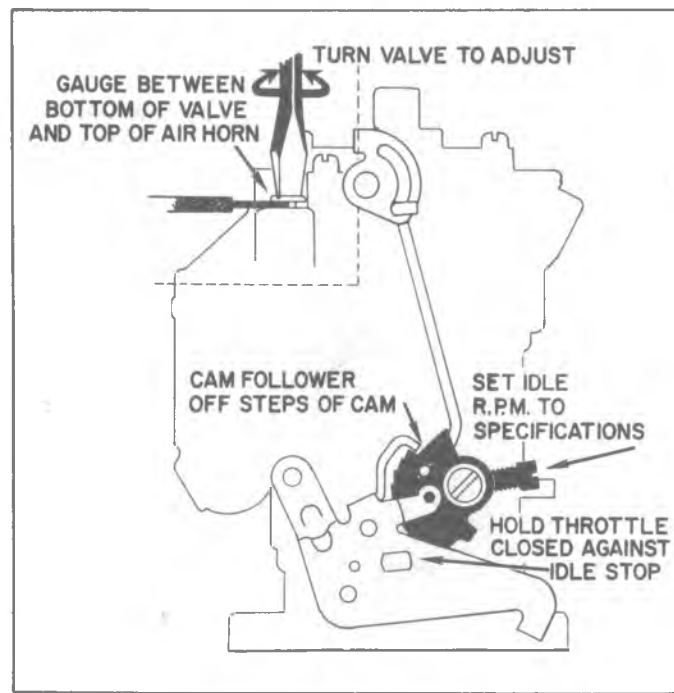

Fig. 8R—Idle Vent Adjustment
8. Install upper choke lever to choke shaft. End of lever faces towards vacuum break diaphragm at 2 o'clock position with choke valve closed. (See Figure 8R). Install choke lever screw. Tighten securely.